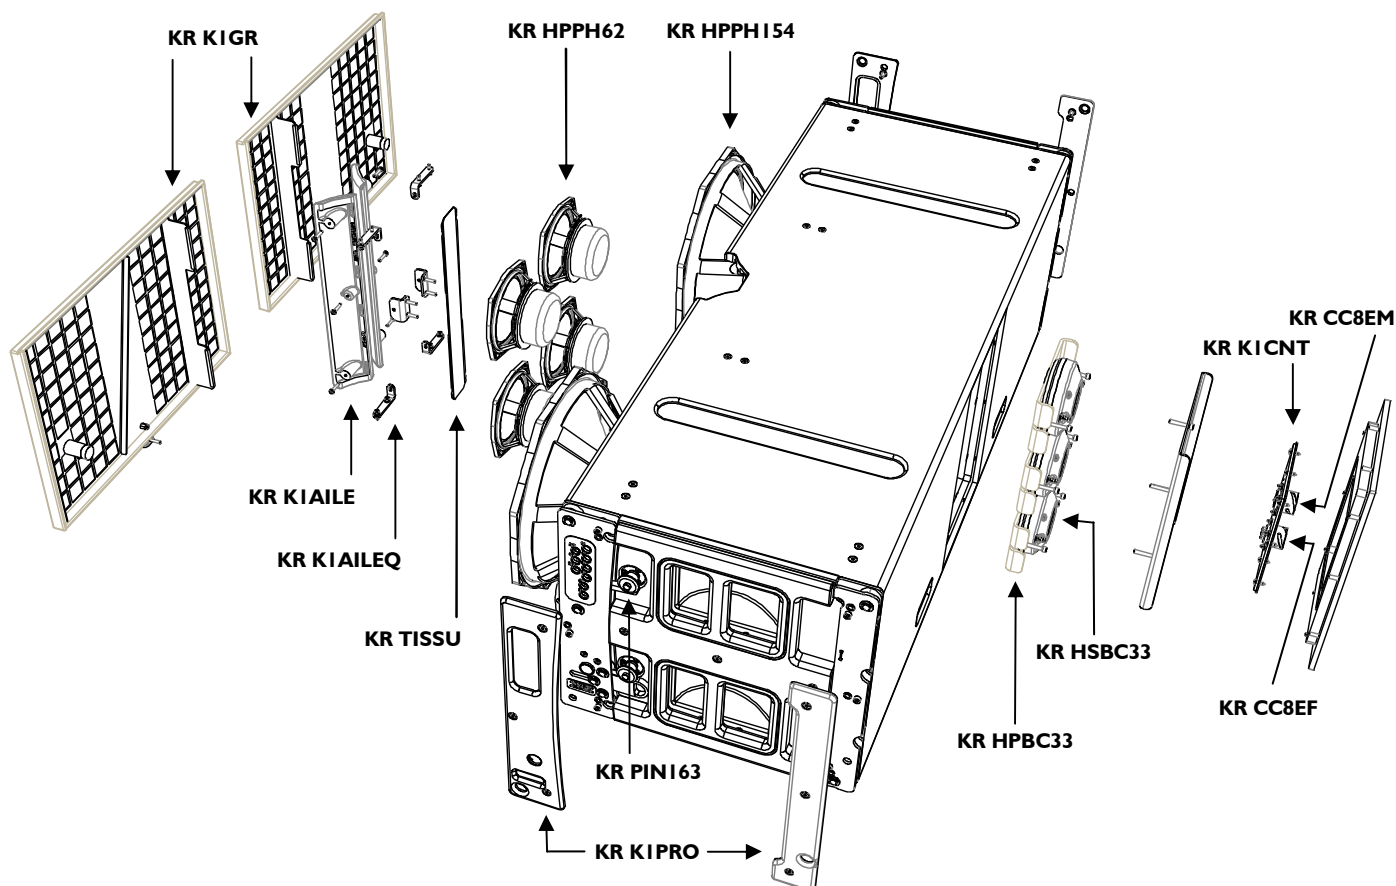

Figure 14: KI exploded view
The replacement kits (KR) available for the customer are shown in Figure 14 and listed in Table 7 with reference to the corresponding service procedures. Table 6 is a list of the tools and material recommended for KI service (not provided).